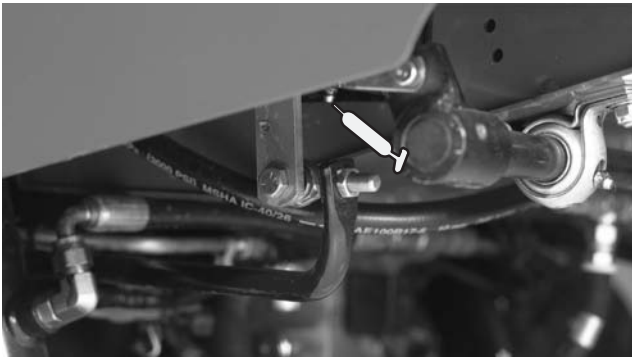

Figure 32
- Traction pedal pivot bushing (1) (Fig. 32)